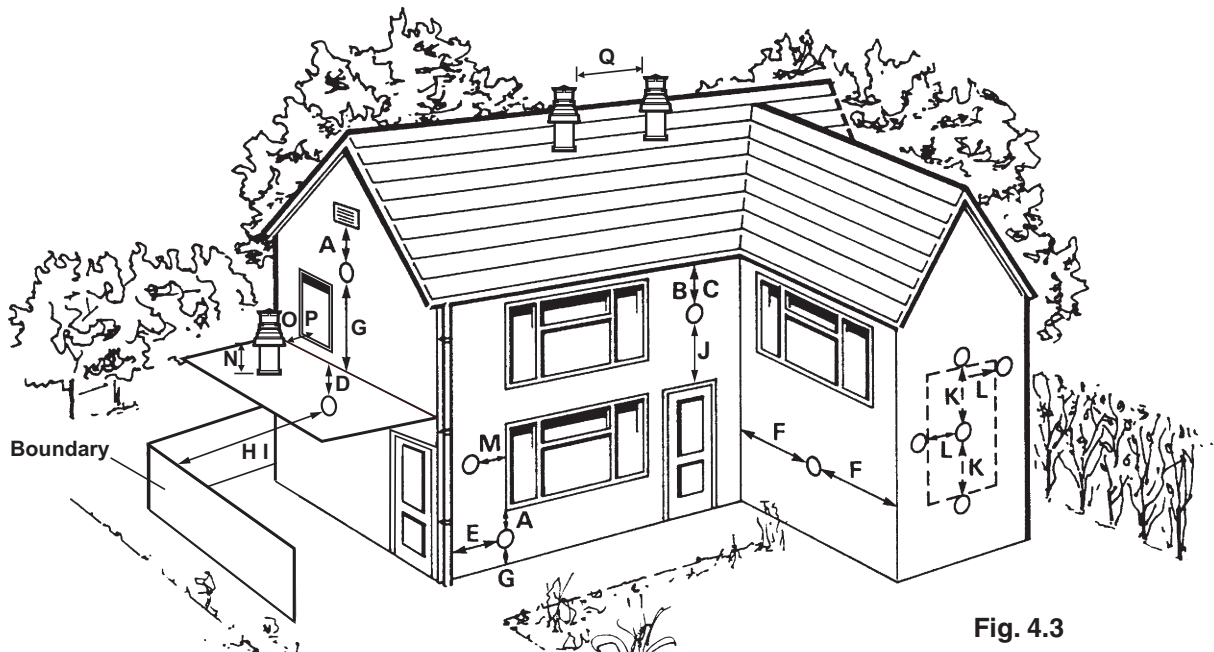

Fig. 4.3
4.4 FLUE TERMINAL LOCATION - Figs. 4.3 and 4.4